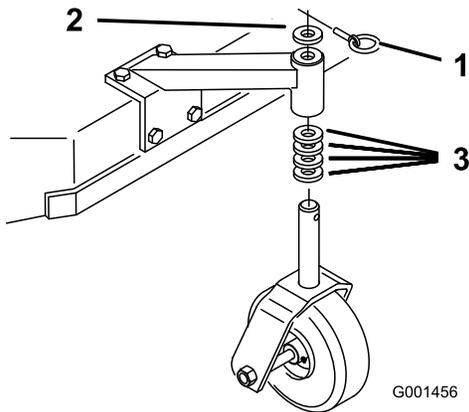

Figure 13
1. Using the Height-of-Cut Chart \(page 22\), adjust the caster spacers to match with the axle hole selected (Figure 13).
2. Remove the latch pin, slide the caster from the support, and change the spacers (Figure 13).
3. Install the caster in the support and insert the latch pin (Figure 13).